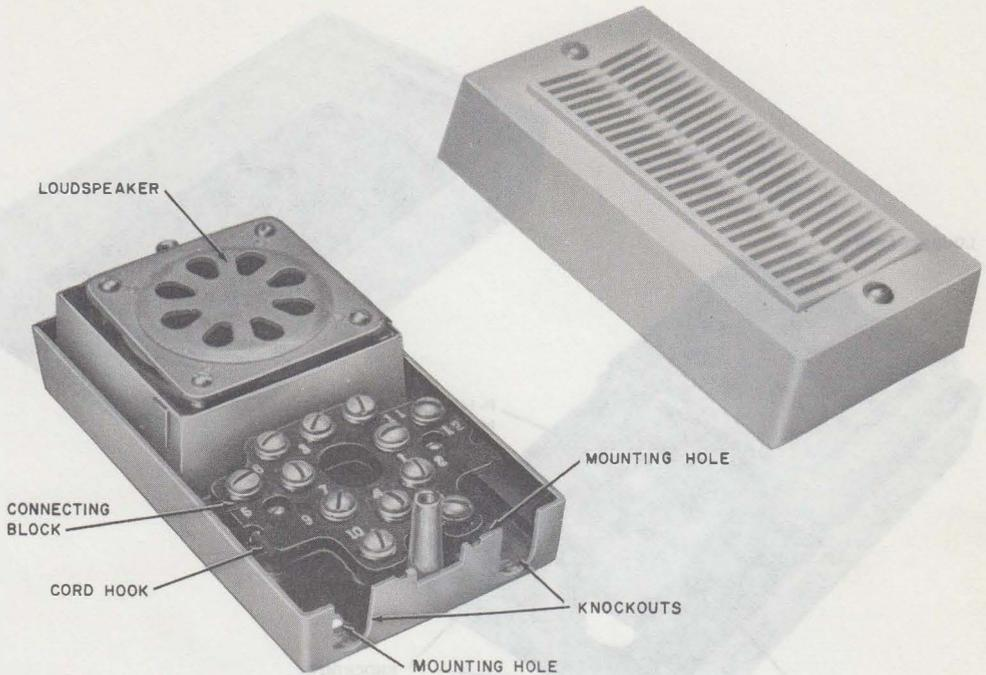

Fig. 2—759A Loudspeaker
- (b) Four mounting holes are provided in the base for securing to the mounting surface (Fig. 2). Cord and cable enter through two holes in base or through the end after removing the knockouts.